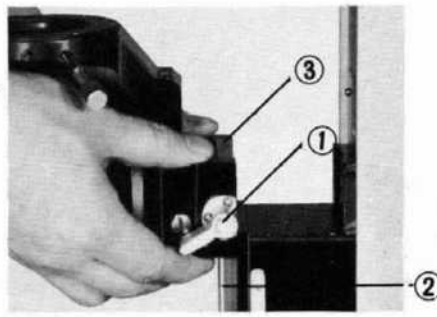

Fig. 3
2. Attach the Condenser Mount.(Fig. 3)